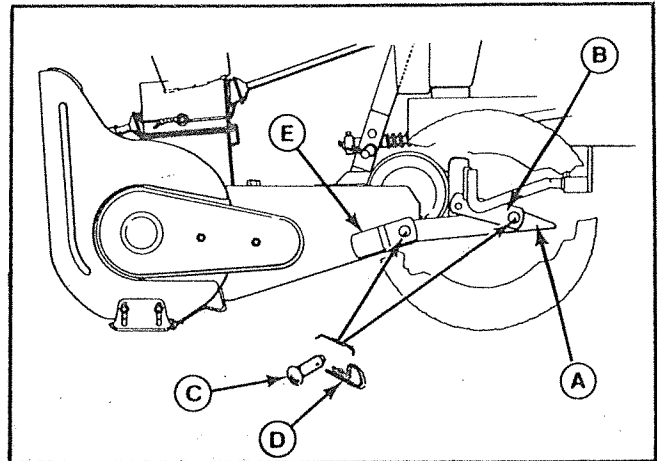

Figure 8. Attach Snowthrower
- a. Remove the two pins and spring clips (C and D, figure 8) from snowthrower clips (E) and remove the snowthrower. Remove the two pins and spring clips (C and D) that secure snowthrower hitch then remove it from the tractor hitch.
- b. Remove the two pins and spring clips that secure snowthrower hitch (A, figure 8) to tractor hitch (B). Remove the snowthrower and hitch by pulling up and away from tractor hitch.